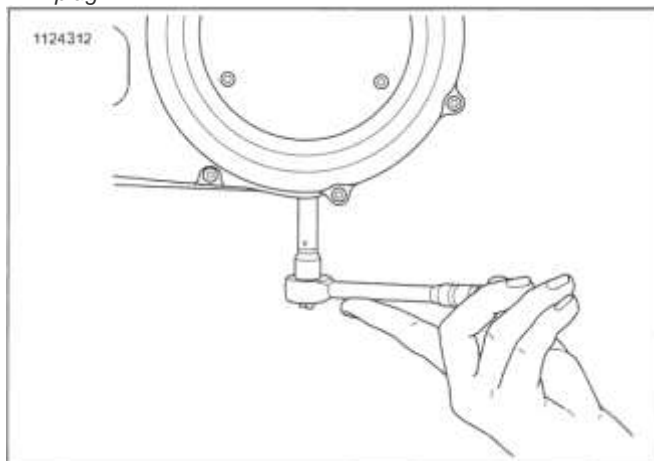

Figure 2-5. Removal/Installation of Chaincase Drain Plug
3. See Figure 2-5. Drain primary chaincase.